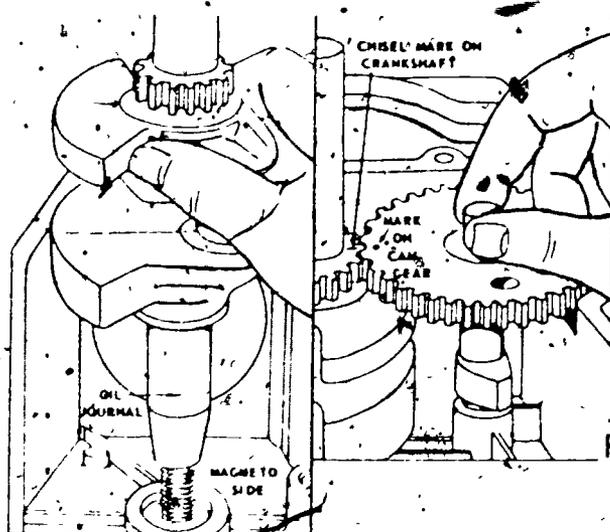

FIGURE 8
- L Install camshaft and cam gear (Figure 8)